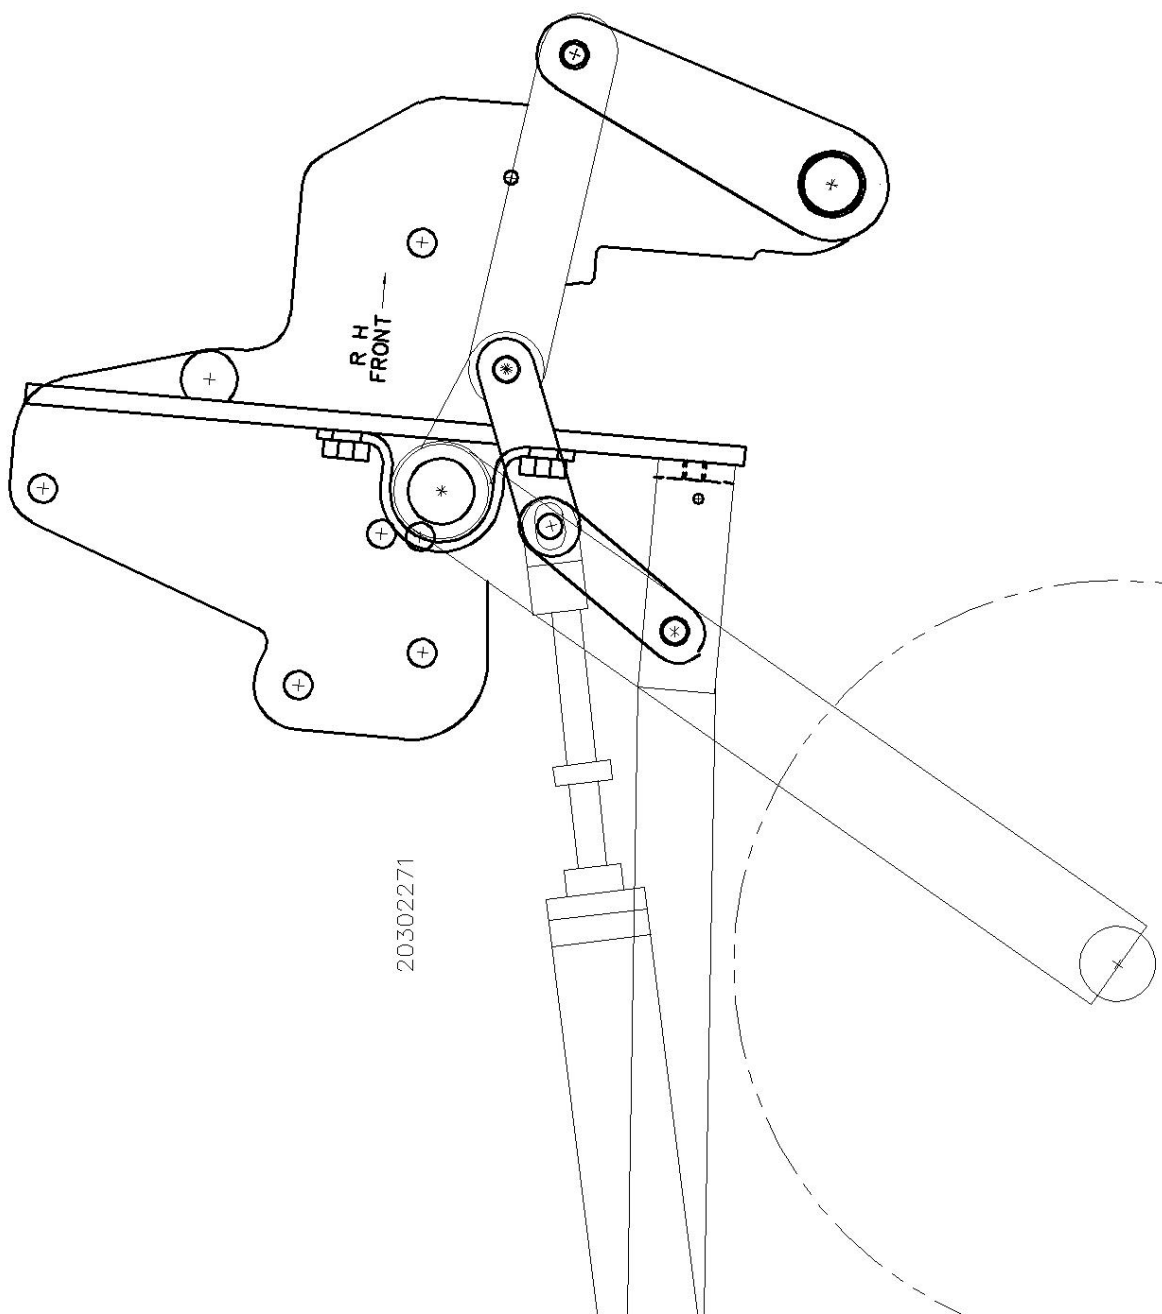
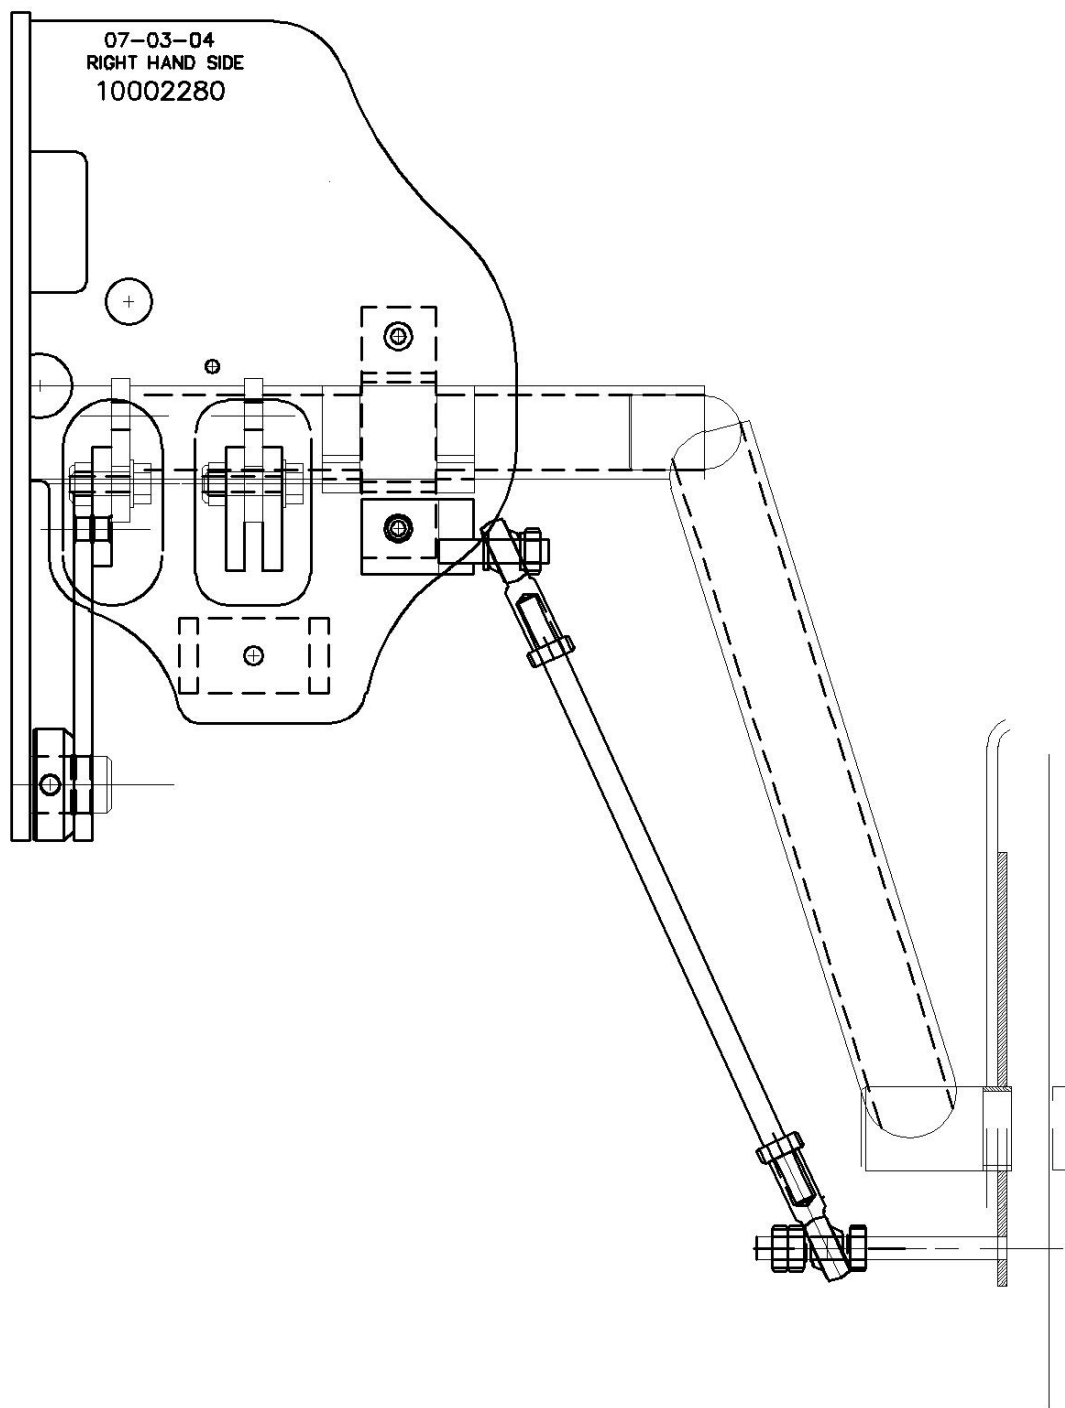

Figure 3
Figure 4
3. Now install the linkage on the right end of the crossover shaft. Position the linkage on to the shaft as shown in Figure 3 (pg 25) & figure 4 (pg 26) To install the roll pin, you must locate the hole in the shaft through the hole provided in the linkage collar. Use a probe on the opposite side to locate this position and tap the roll pin flush to the collar surface.